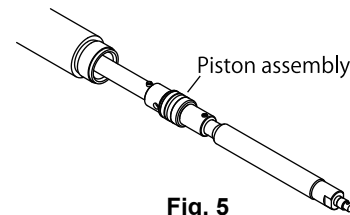

Fig. 5
- 4) Pull out the plunger rod from the suction tube by holding it. The piston and connecting rod assembly can be pulled out. (Fig. 5)